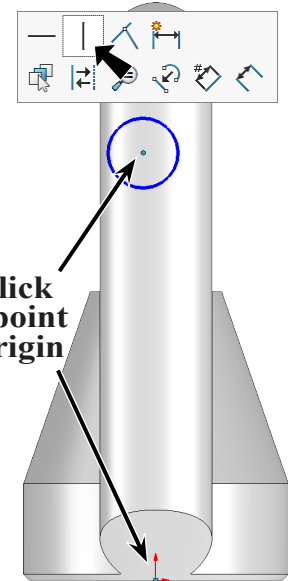

**Fig. 38**
Step 5. Sketch a circle above the Origin , **Fig. 38**.